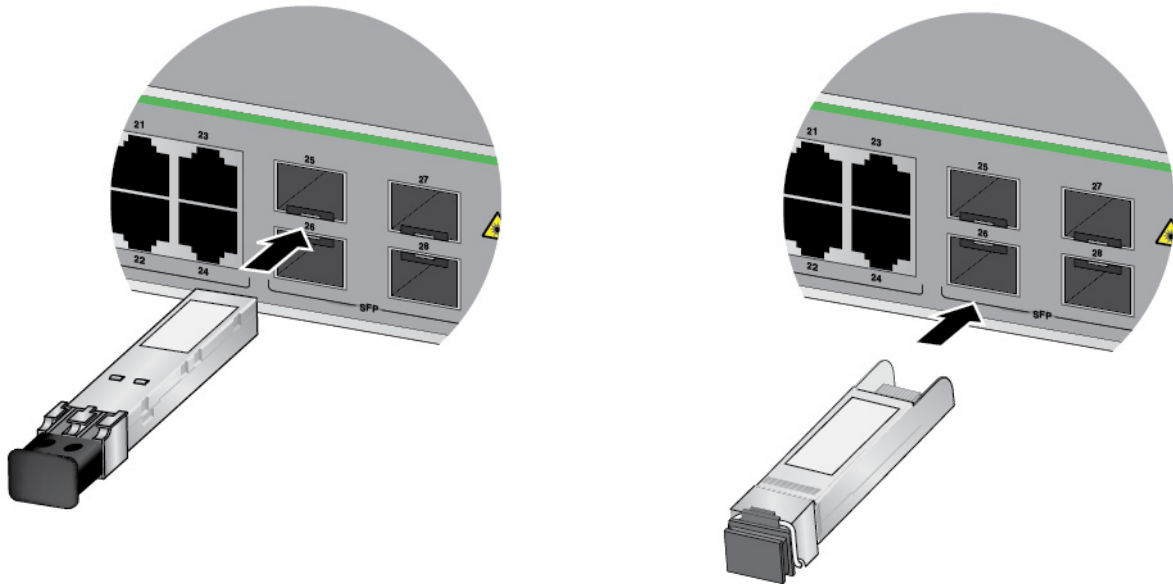

Figure 40. Installing an SFP Transceiver
3. Slide the transceiver into the slot until it clicks into place. Refer to Figure 40 on page 79.